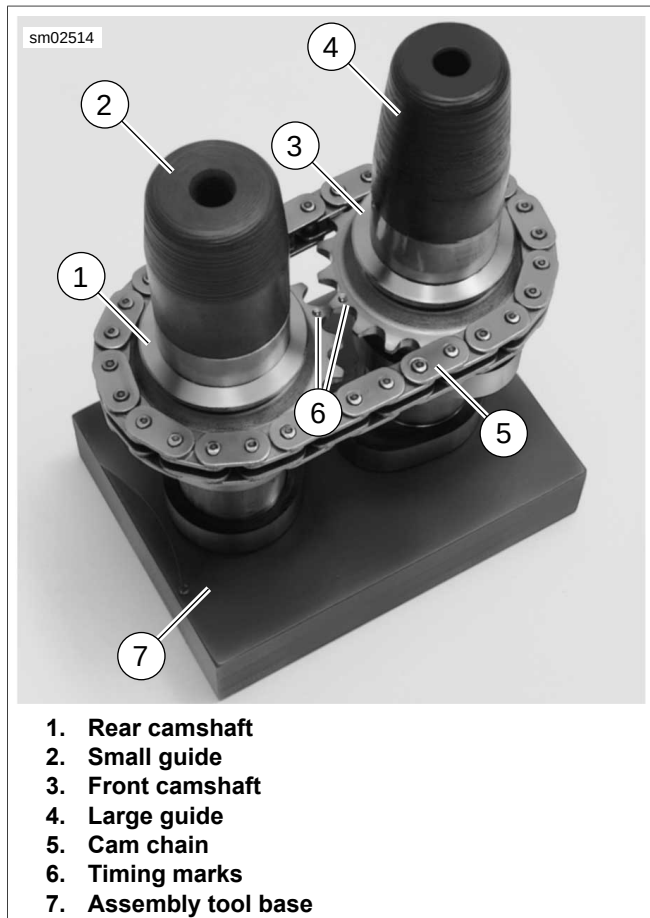
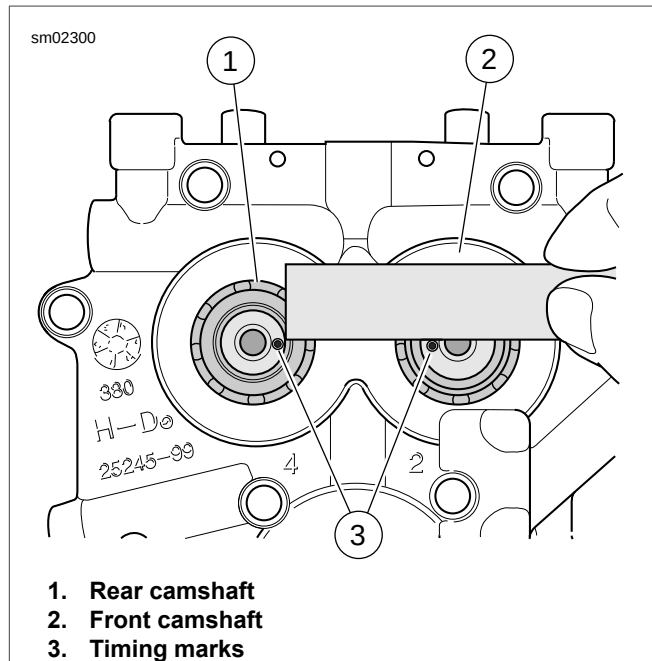

Figure 3-98. Camshaft Assembly Tool
Figure 3-99. Verify Alignment of Timing Marks
3. See Figure 3-98. Obtain CAMSHAFT ASSEMBLY TOOL (Part No. HD-47956). Place crankcase side of camshaft/cam chain assembly into assembly tool base (7) while maintaining cam timing mark (6) alignment.
4. Place small guide (2) on rear camshaft (1). Place large guide (4) on front camshaft (3).
8. See Figure 3-99. Using a straightedge, verify that the timing marks are in alignment. If they are not, then the camshafts must be removed, realigned and reinstalled.